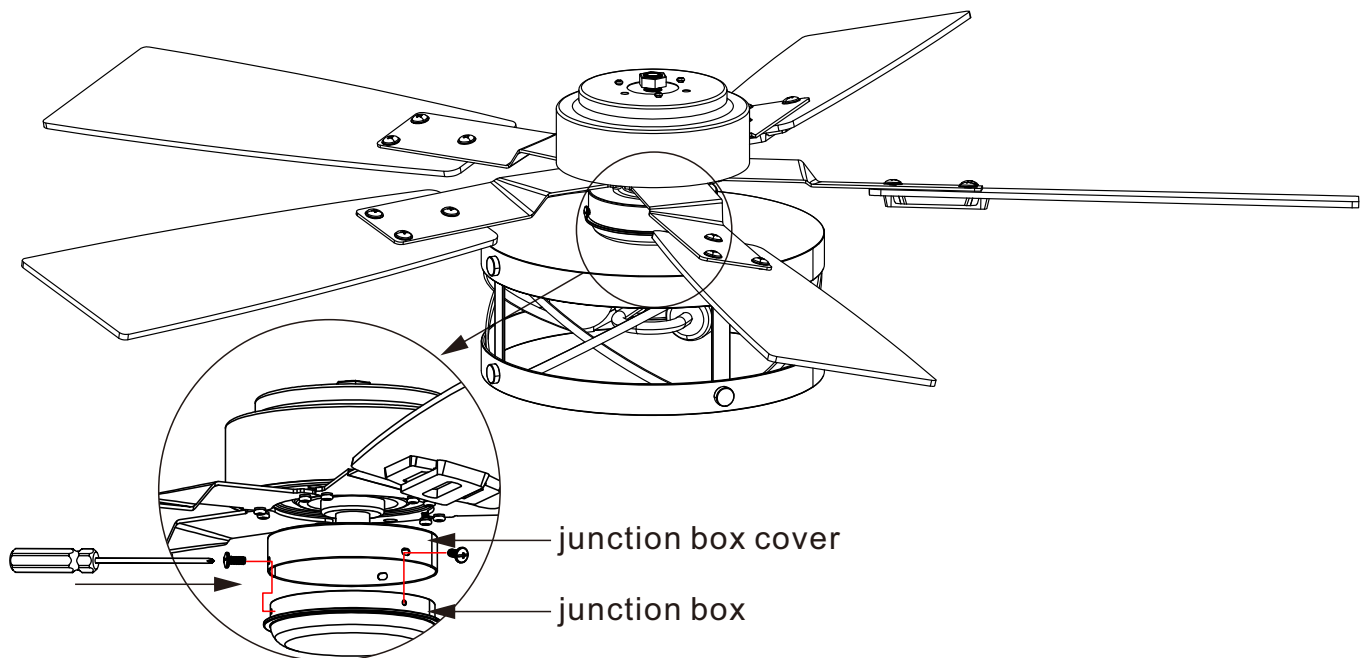

Figure 6
Step 3. Place the connected light wires into the light fixture adapter (junction box), then align the adapter (junction box cover) from the main unit with it. Screw back the three screws removed earlier and tighten them. (Fig. 6)